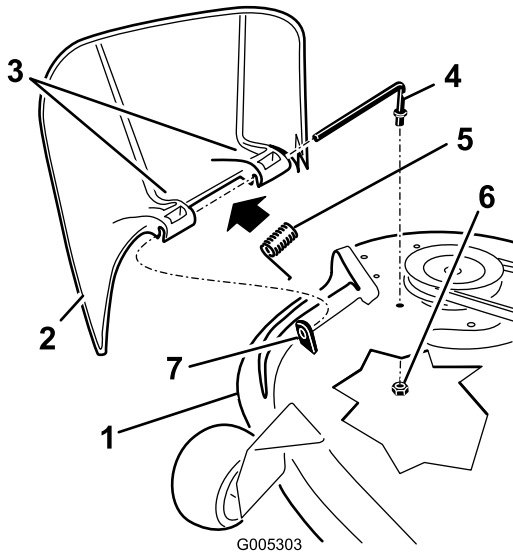

Figure 60
1. Locate items shown in Figure 60.
2. Remove the nut (3/8 inch) from the rod under the mower (Figure 60).
3. Slide the rod out the short standoff, spring, and grass deflector (Figure 60). Remove the damaged or worn grass deflector.
4. Replace the grass deflector (Figure 60).
rod through second grass-deflector bracket (Figure 60).
7. Insert rod at front of grass deflector into short standoff on deck. Secure rear end of rod into the mower with a nut (3/8 inch) (Figure 60).